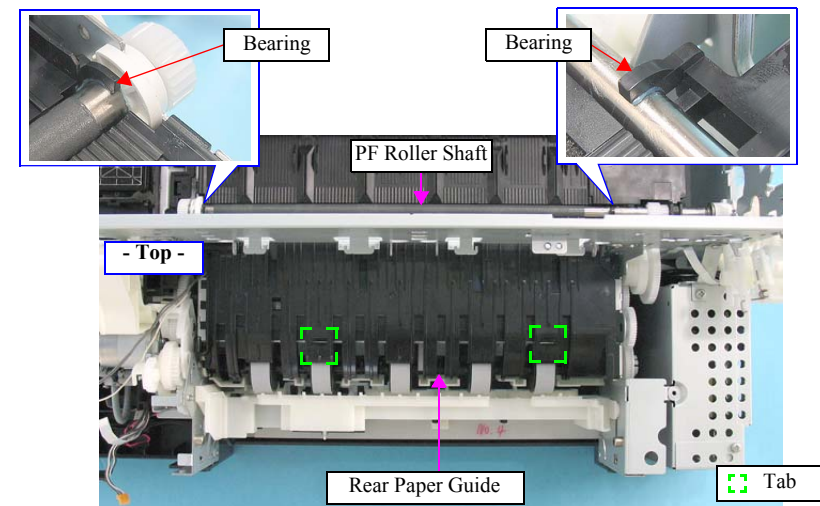

Figure 4-207. Removing the Rear Paper Guide
- When installing the Rear Paper Guide, securely attach its two bearings to the PF Roller shaft as shown in Figure.4-207.